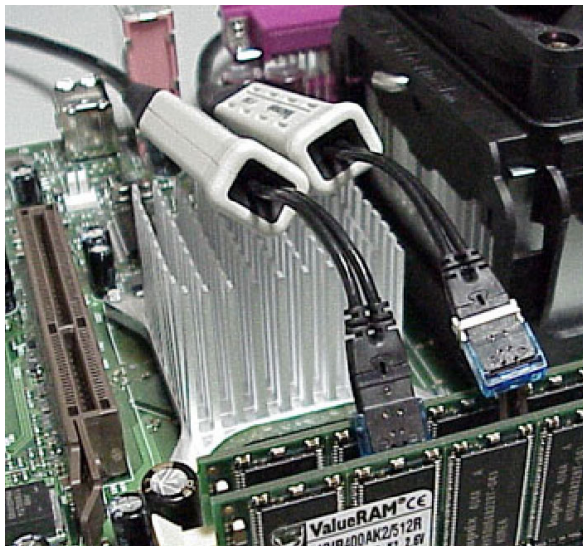

Figure 19: Circuit board with Tip-Clip assemblies
- Attach one or more probes to the Tip-Clip Assemblies and probe the critical measurement nodes. See Figure 19.